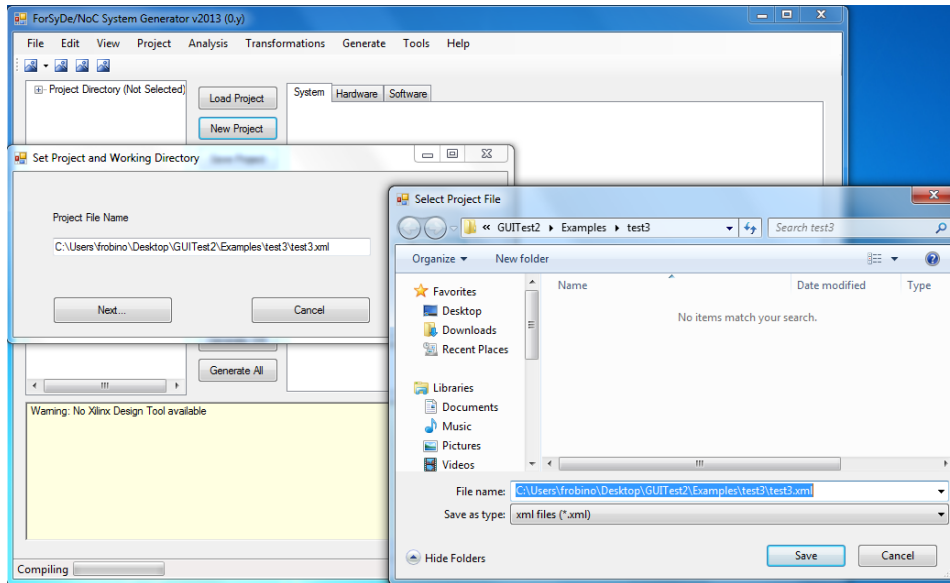

Figure 2.3.: Creating a new project: workspace
2. browse to a folder where you want to save the project files. From now on, we will refer to this folder with the term **workspace**. A typical workspace can be a folder such as \Ring2x2\Examples\test\. Before clicking on the Save button, insert the name of a XML file which will be used as project file, to save your project configurations. This step is shown in Figure 2.3. Note: the workspace folder will contain only the XML intermediate format file, not the output files of the NSG!